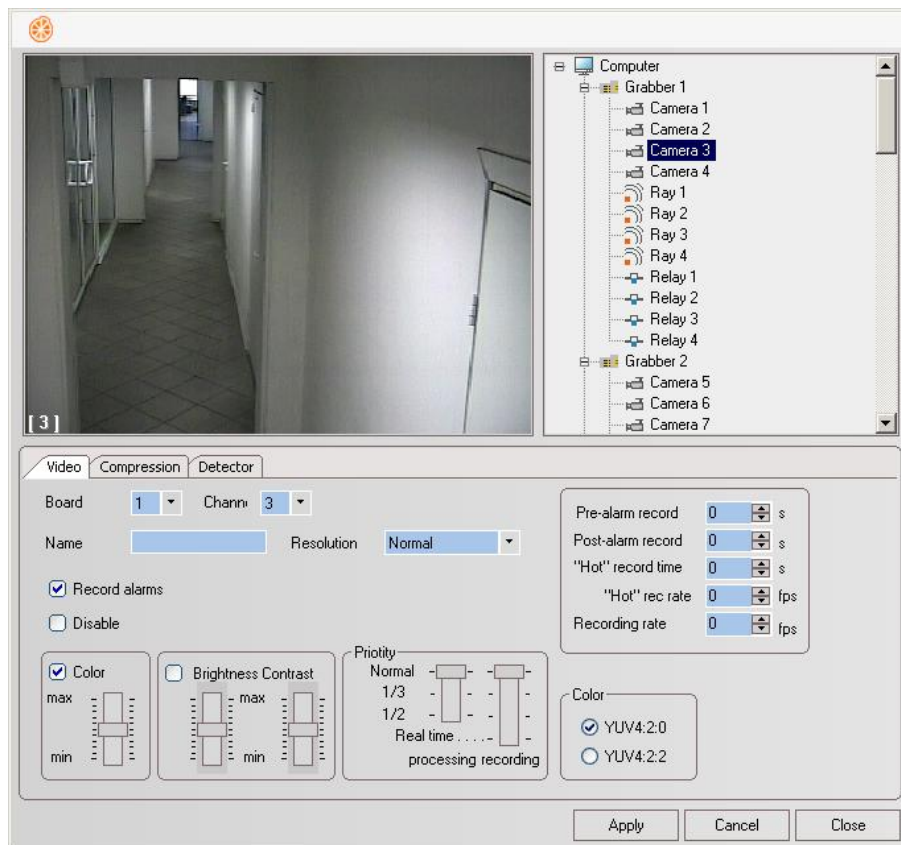

Figure 3.3.5-1
4. The Apply, Cancel and Close buttons for confirming or canceling the changes and closing the Settings panel, respectively (Figure 3.3.5-1).